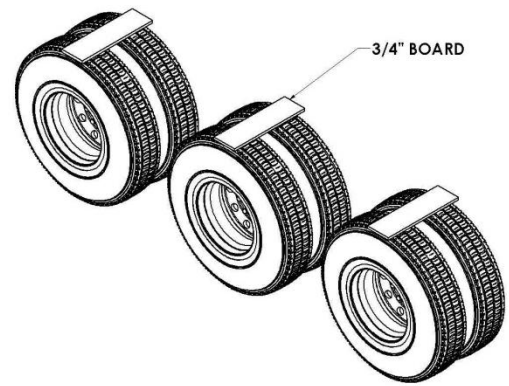

Figure 5
- a. For an air suspension system, place a $\frac{3}{4}$ " board on top of the tires after the air has been let out of the airbags (Figure 5). Place the fender on top of the board.